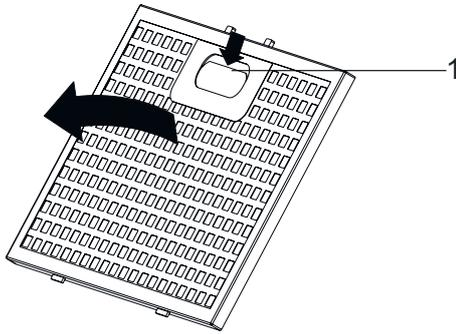

Fig. 11
- Press the aluminium filter tab (1) and pull the aluminium filter to the direction of the arrow (Fig. 11).